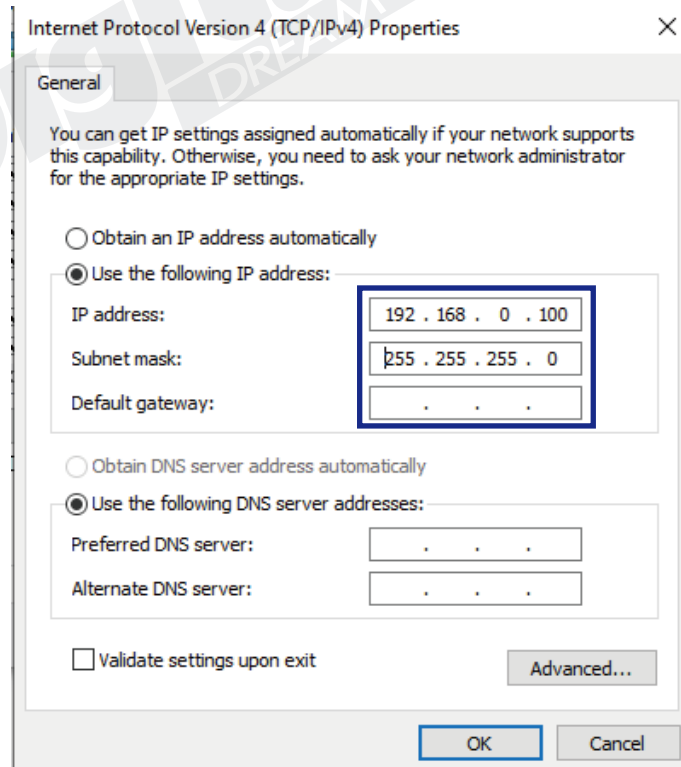

Figure 8-22 Set the IP address
Step 4: Set the IP address and Subnet mask as Figure 8-22: